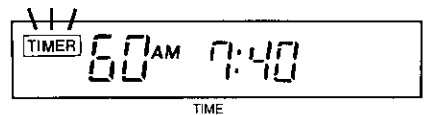

Fig. 21
5. Press the OPERATION switch while the TIMER indicator is blinking (set to 60 minutes). (Fig.21)